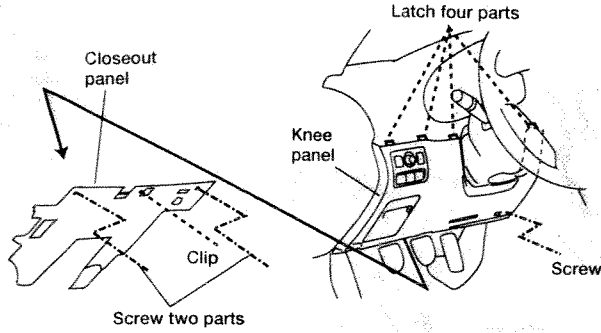

Figure 5-1
1. Lower the closeout panel and the knee panel. (Figure 5-1)